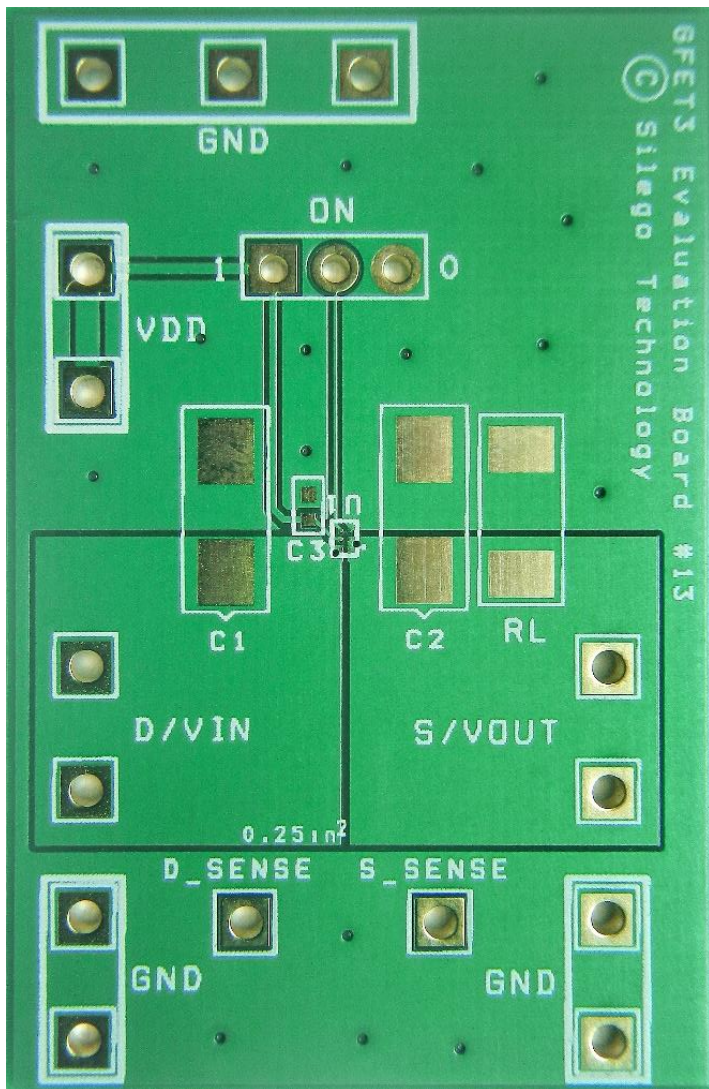

Figure 3. SLG59M1742C Evaluation Test Board
- 2.3. The VIN and VOUT pins carry significant current. Please note how the VIN and VOUT pads are placed directly on the power planes in Figure 3, which minimizes the $R_{DS\text{ON}}$ associated with long, narrow traces. The VIN, VOUT and GND pins dissipate most of the heat generated during high-load current condition. The layout shown in Figure 3 is illustrating a proper solution for heat to transfer as efficiently as possible out of the device.